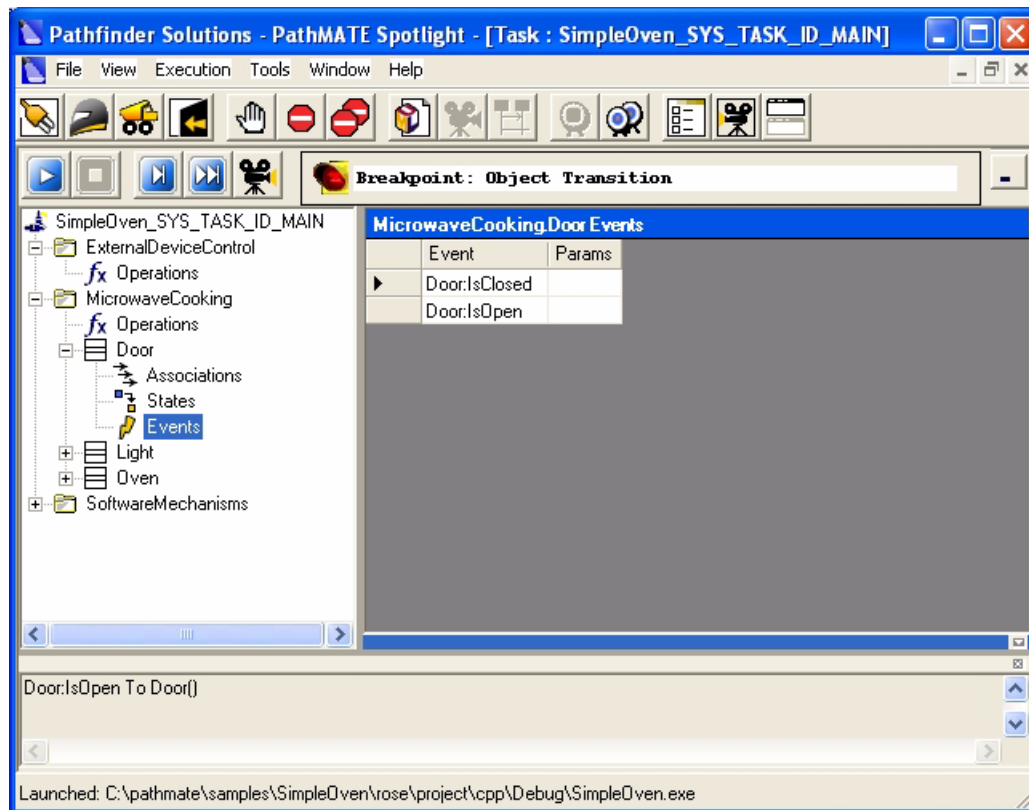

Figure 4-4. Events in the Door Class
6. Select *Events* in the browser (Figure 4-4).